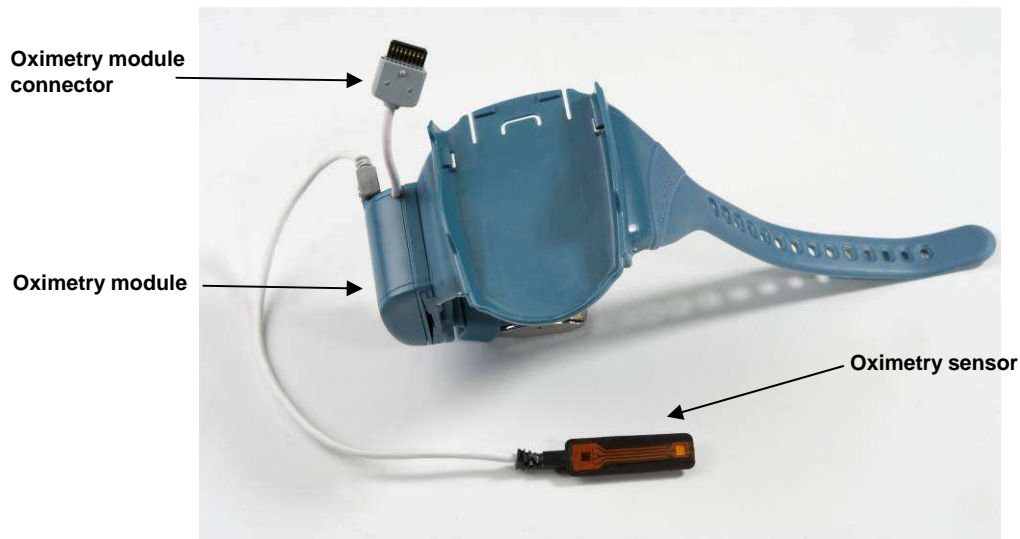

Figure 9 – Wrist Strap
2. Connect the oximetry module connector (Figure 9) to the oximetry module port on the WP200 (Figure 4).